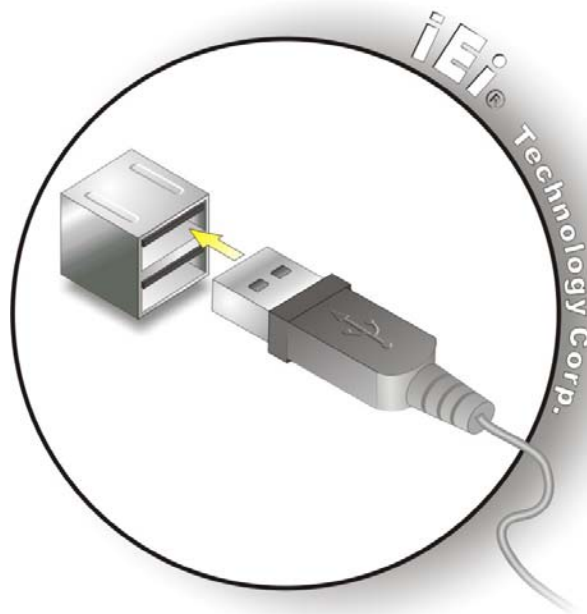

Figure 3-38: USB Device Connection
Step 2: **Align the connectors**. Align the USB device connector with one of the connectors on the bottom panel. See **Figure 3-38**.